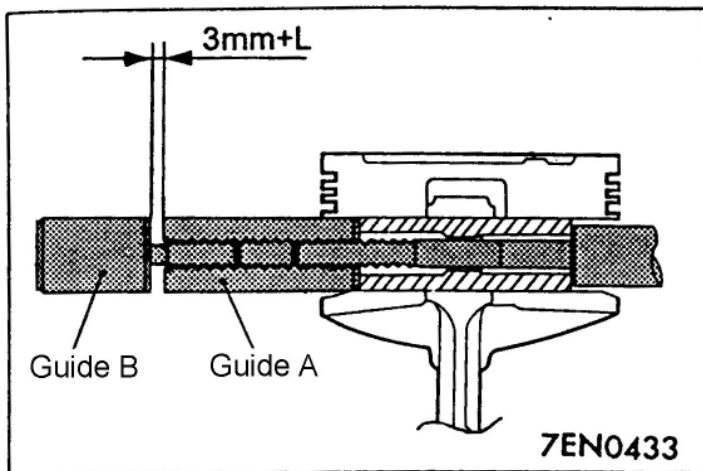

Fig.4-48
- g Screw guide B into guide A. Leave a gap between the two guides of 3 mm plus the value (L) calculated in step (2) , see Fig.4-48.